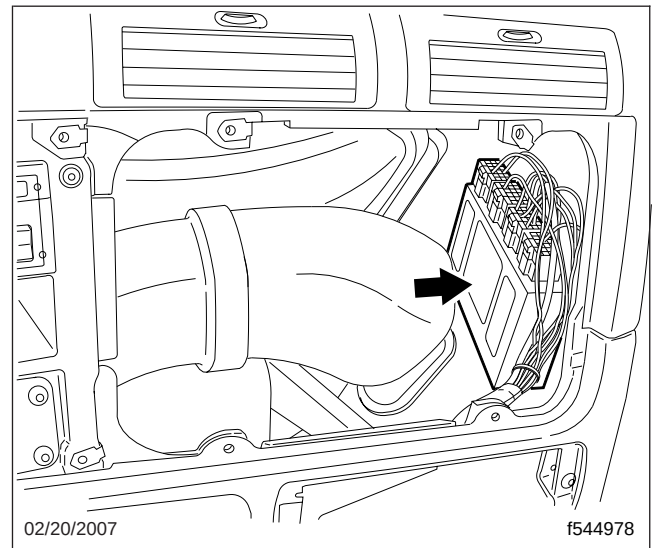

Fig. 3, Vehicle Control Unit (VCU)
10. Disconnect vehicle control unit (VCU) wiring, and pull the VCU loose from the inside of the dash; see Fig. 3.
7. Connect and install the VCU inside the center section of the dash; see Fig. 3.